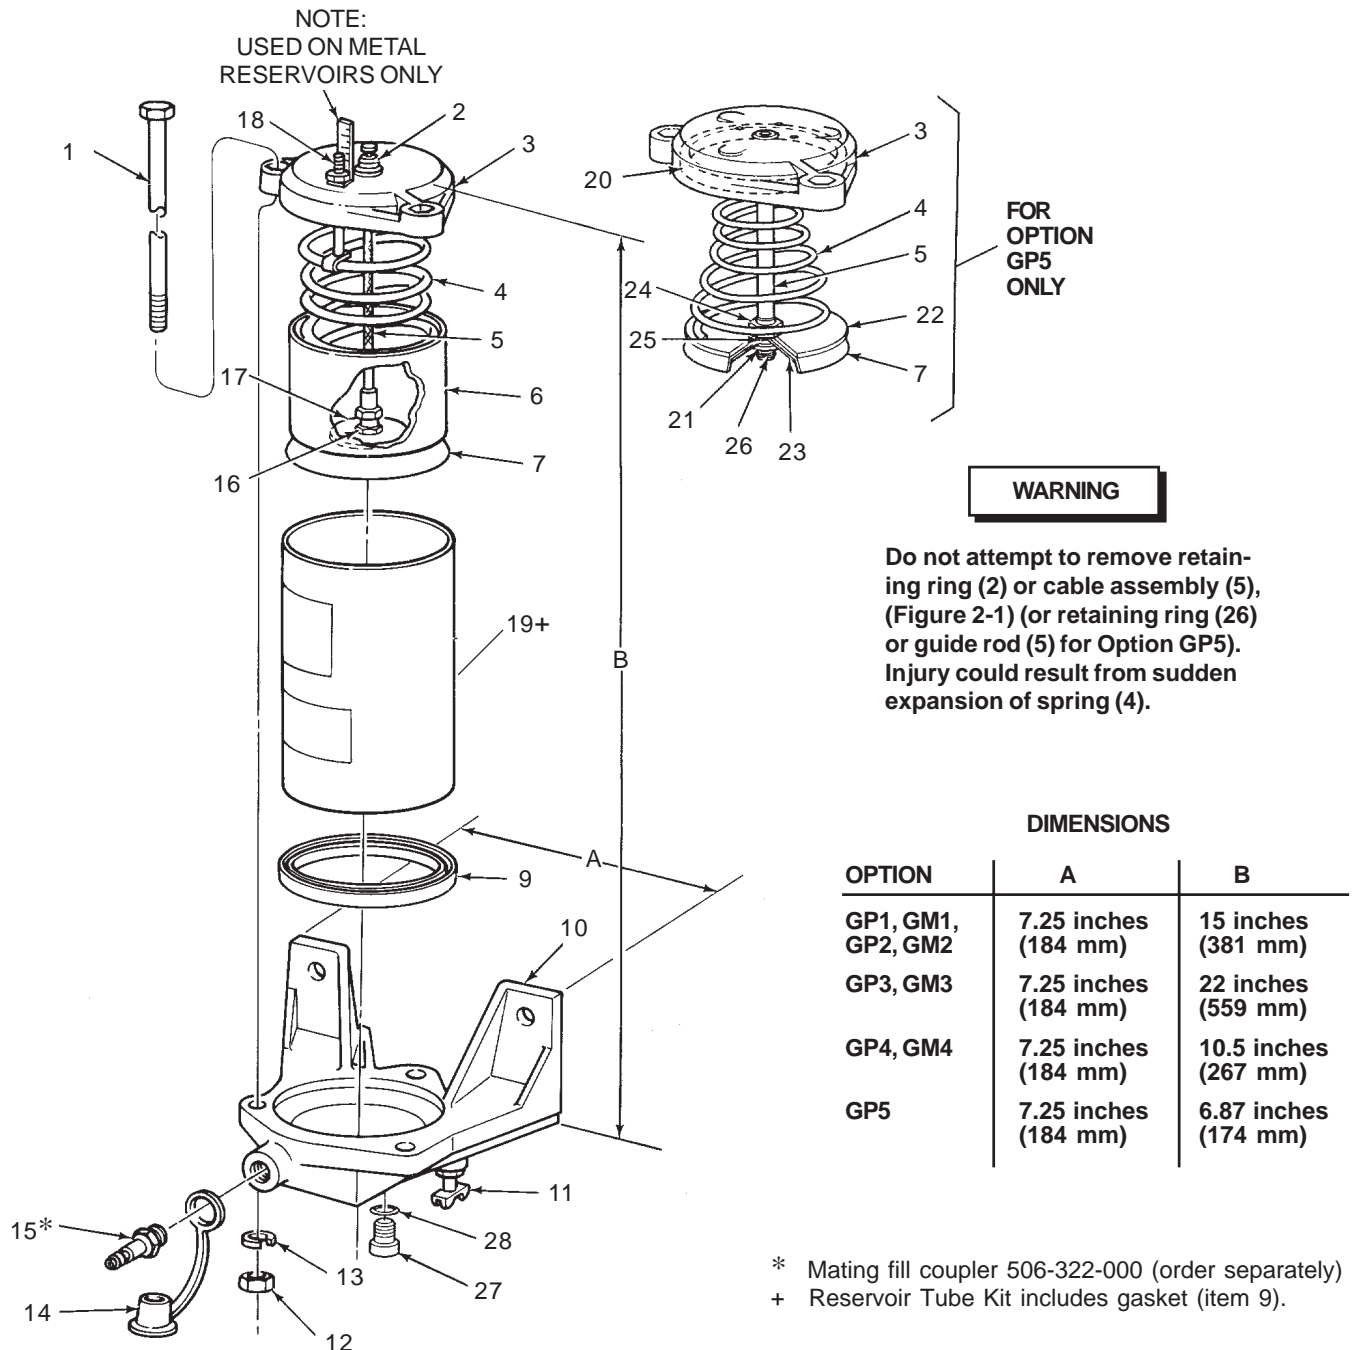

Figure 2-1. Grease Reservoir - Exploded View
2.4.1 General. Maintenance tips, disassembly, and assembly procedures for grease reservoirs are discussed in Paragraphs 2.4.2, 2.4.3 and 2.4.4. An exploded view of a typical grease reservoir is shown in Figure 2-1 and should be referred to during the discussion.
- a. Visually inspect the reservoir for lubricant leaking between reservoir tube (8, Figure 2-1) and base (10). This may indicate a bad gasket (9) or that the hex nuts (12) are not tight. Torque the nuts to 5 ft lbs. If the leakage continues, replace gasket (9). Check for cracks and nicks in tube (8). Replace the tube as required.
- b. Visually inspect the reservoir tube (8) for dents which may restrict the movement of the follower cups (6 and 7). Replace the tube as required.
2.4.3 Disassembly of Grease Reservoirs. Figure 2-1 shows a typical grease reservoir but does not include other Modu-Flo components which may be mounted to the reservoir. These components include the manifold, pump, level switches and high-pressure blowout switches. Disassembly of the reservoir may require that some of these components be removed. The manifold and pump do not normally require removal, but may be removed if desired. The level and blowout switches may or may not require removal, depending on the level of disassembly required. The electrical connections to the switches probably should be disconnected in order to remove various parts without restriction of movement by the electrical cord. The removal of these components is explained in other sections of the manual. Refer to the table of contents to find where the components are discussed.
Do not attempt to remove retaining ring (2) or cable assembly (5) (Figure 2-1) (or retaining ring (25) or guide rod (5) for Option GP5). Injury could result from sudden expansion of spring (4).
- a. Slowly open petcock (11) and allow lubricant to be forced from the reservoir into a bucket or similar container. Remove fill stud (15) and petcock (11) if necessary. Properly dispose of emptied grease.
- b. Remove hex nuts (12) and lockwashers (13) from tie rods (1). Remove tie rods (1) from cap (3).
- c. Lift reservoir tube (8) from base (10) keeping reservoir cap (3) in position on top of the tube.
- d. Slide reservoir tube (8) away from reservoir cap (3) until it is free of follower cup (7).
- e. Remove gasket (9) from bottom of reservoir tube (8).
- f. Further disassembly is only possible at the factory. If damage is apparent on the follower cups (6 and 7), cable assembly or guide rod (5), spring (4) or reservoir cap (3) the unit cannot be serviced and the reservoir assembly must be replaced.
- a. Slide reservoir tube (8, Figure 2-1) over follower cup (7) being careful not to distort the follower cup lips. Slide reservoir tube (8) up until it contacts reservoir cap (3).
- b. Install new gasket (9) on bottom of reservoir tube (8).
- c. Place reservoir tube (8) with gasket (9) on base (10) and rotate reservoir cap (3) until holes in the cap line up with holes in the base (10).
- d. Install tie rods (1) through holes in reservoir cap (3) and base (10).
- e. Install lockwashers (13) and hex nuts (12) on tie rods (1) and torque to 5 ft lbs.
- f. Install fill stud (15), dust cap (14) and petcock (11) in base. Make sure petcock (11) is in the closed position.
2.4.5 Grease Reservoir Parts Lists. Table 2-2 identifies the parts indexed in Figure 2-1.